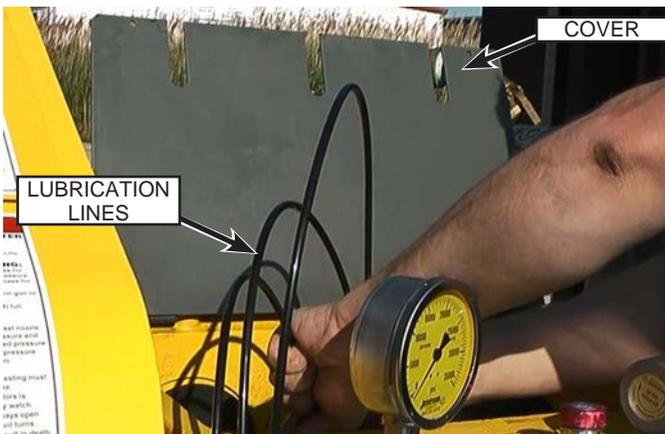

Fig. 59: Connecting Water Lubrication Lines
23. Connect the water lubrication lines (Fig. 59) to the fittings on the stuffing boxes.